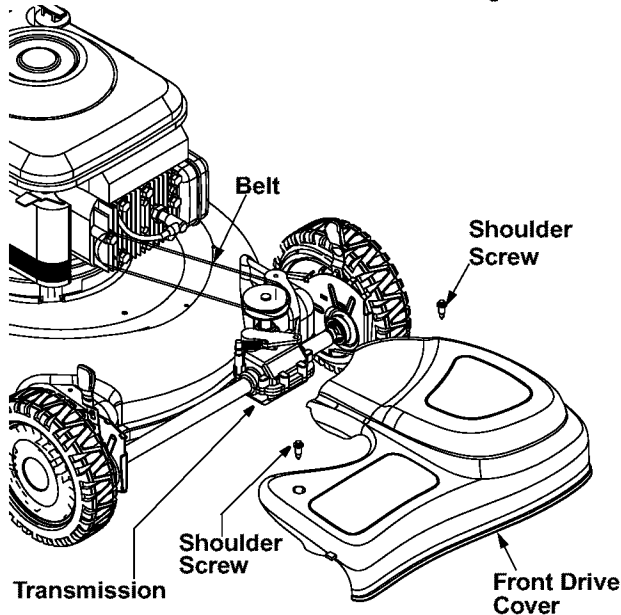

Figure 13
1. Remove two shoulder screws securing the front drive cover to the mower deck. See Figure 13.